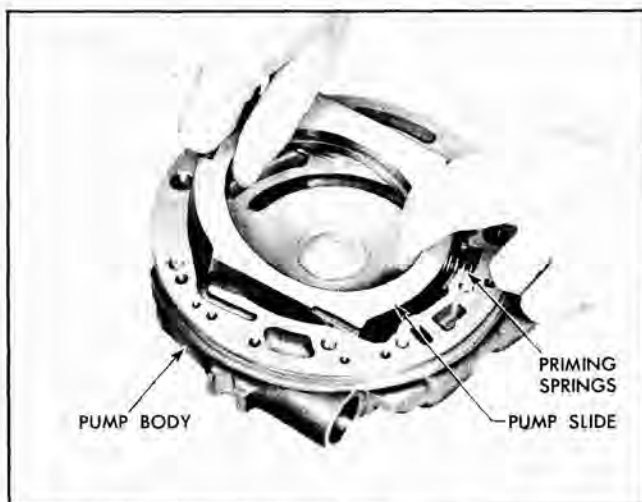

Fig. 72 Removing Pump Slide
5. Remove the pump slide by compressing slide against priming springs and lift up on opposite end (Fig. 72).
11. Assemble slide into pump body by compressing slide against priming springs at lower end until slide can be fully installed into pump (Fig. 72).